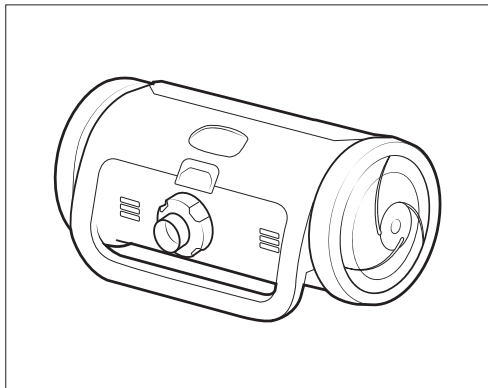

Figure 12. Store Cleaner on its Side
- Store the cleaner on its side or back to avoid damage to turbine and brushes (Figure 12).